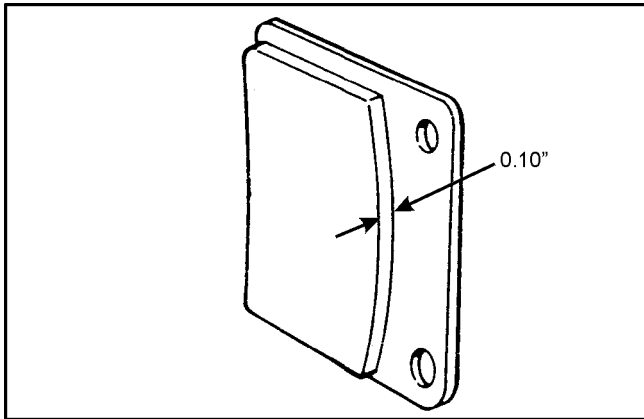

Figure 7-18. Brake pad wear, hydraulic brakes.
- the brake lining material molded to each metal backing plate is worn to 0.10" thickness. (Figure 7-18).